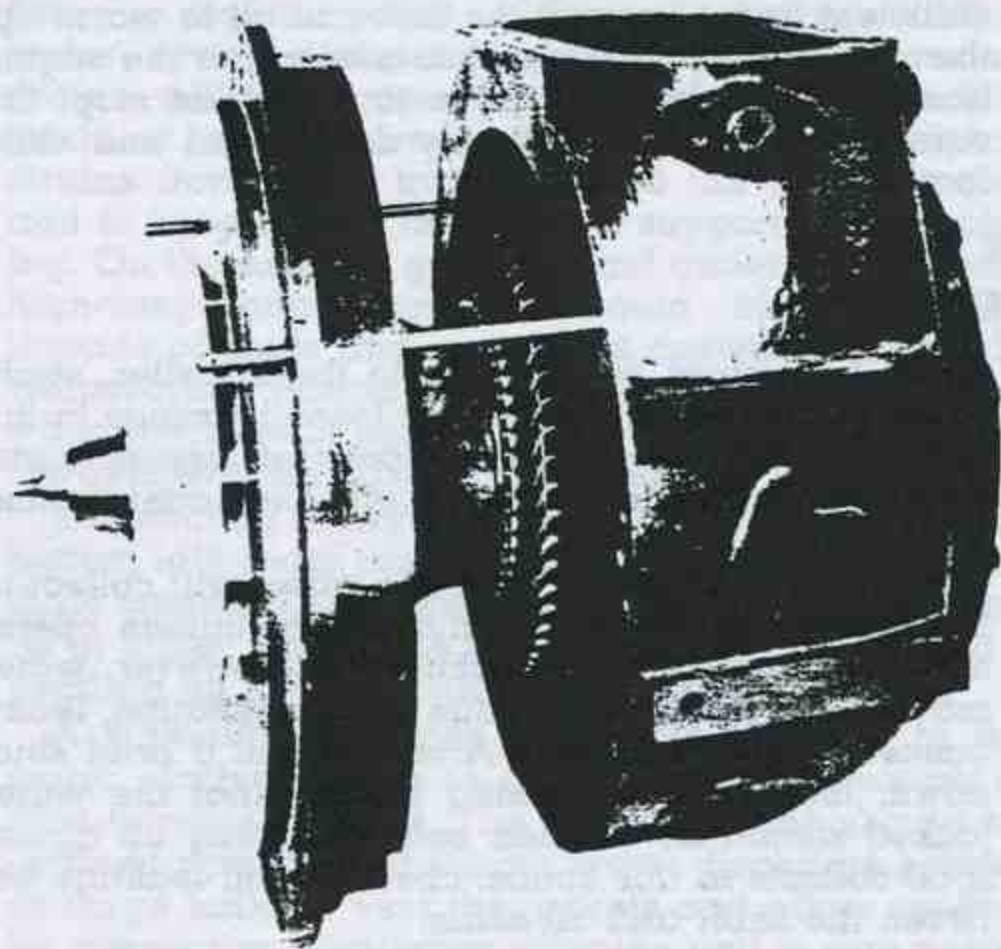
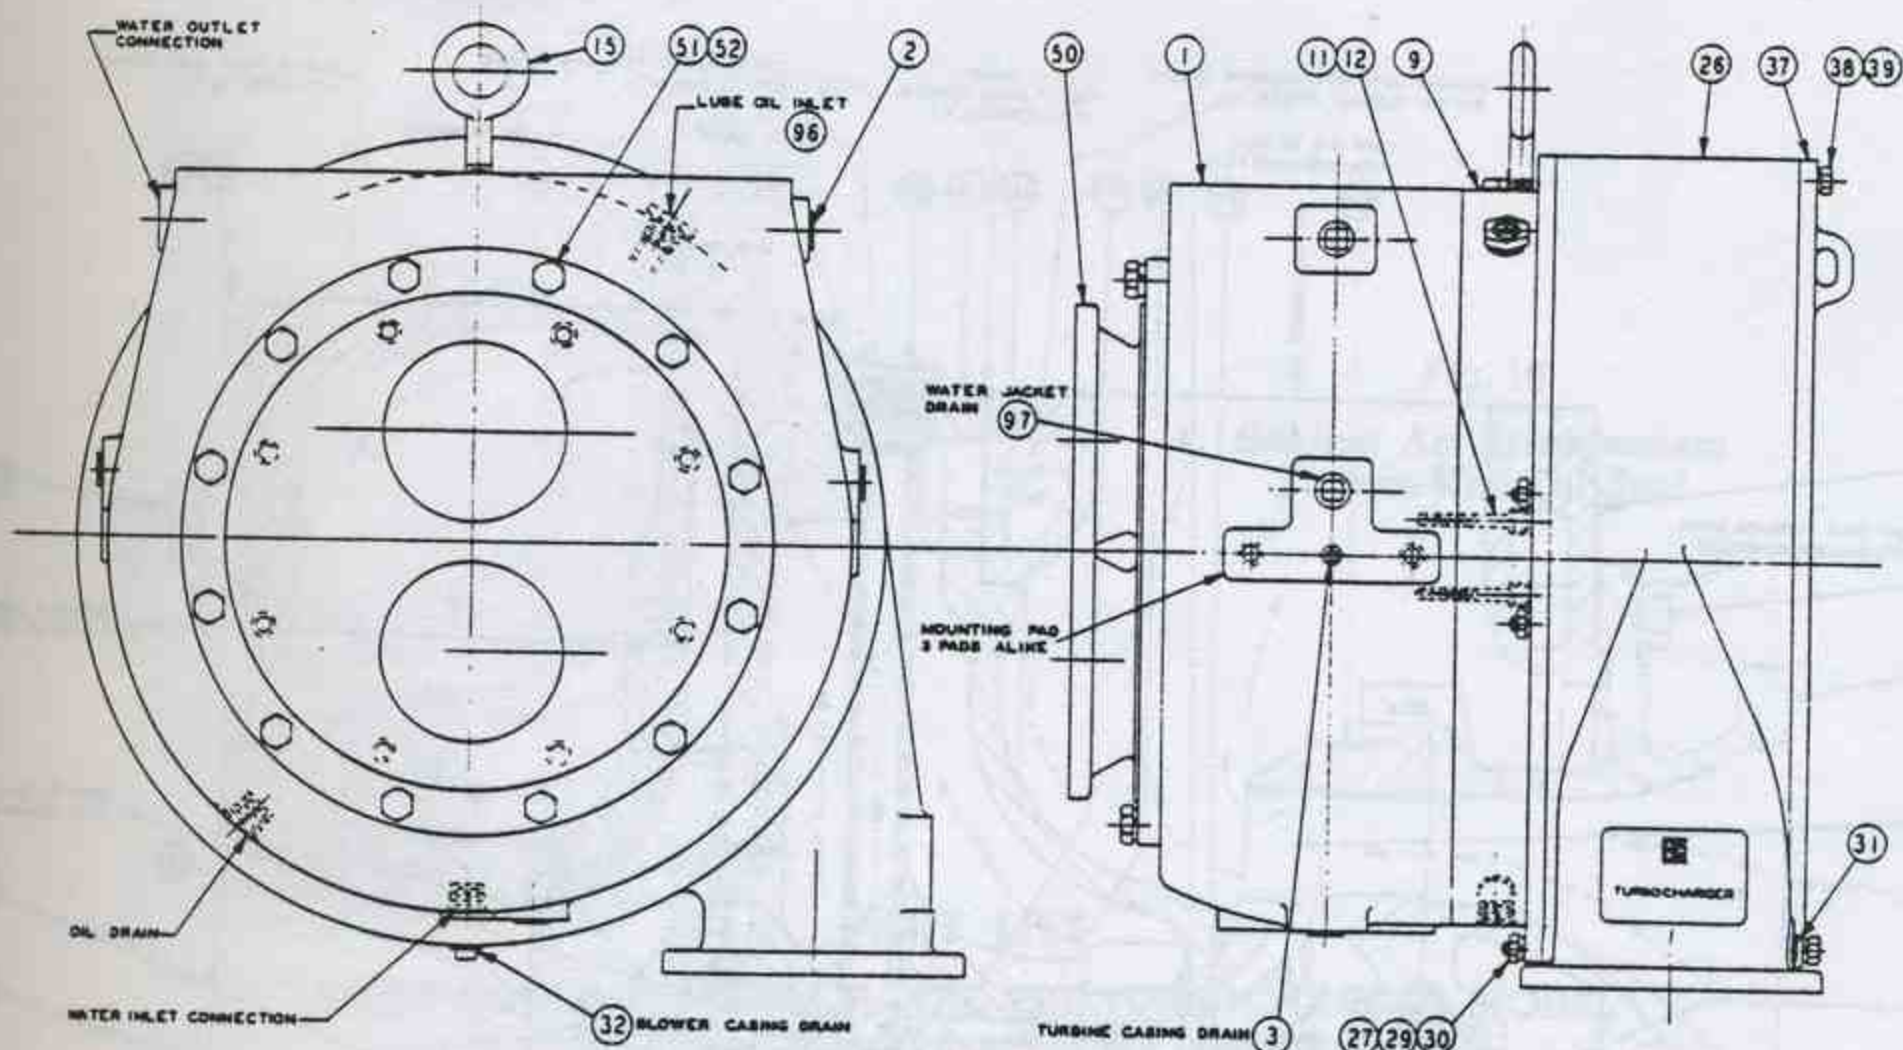
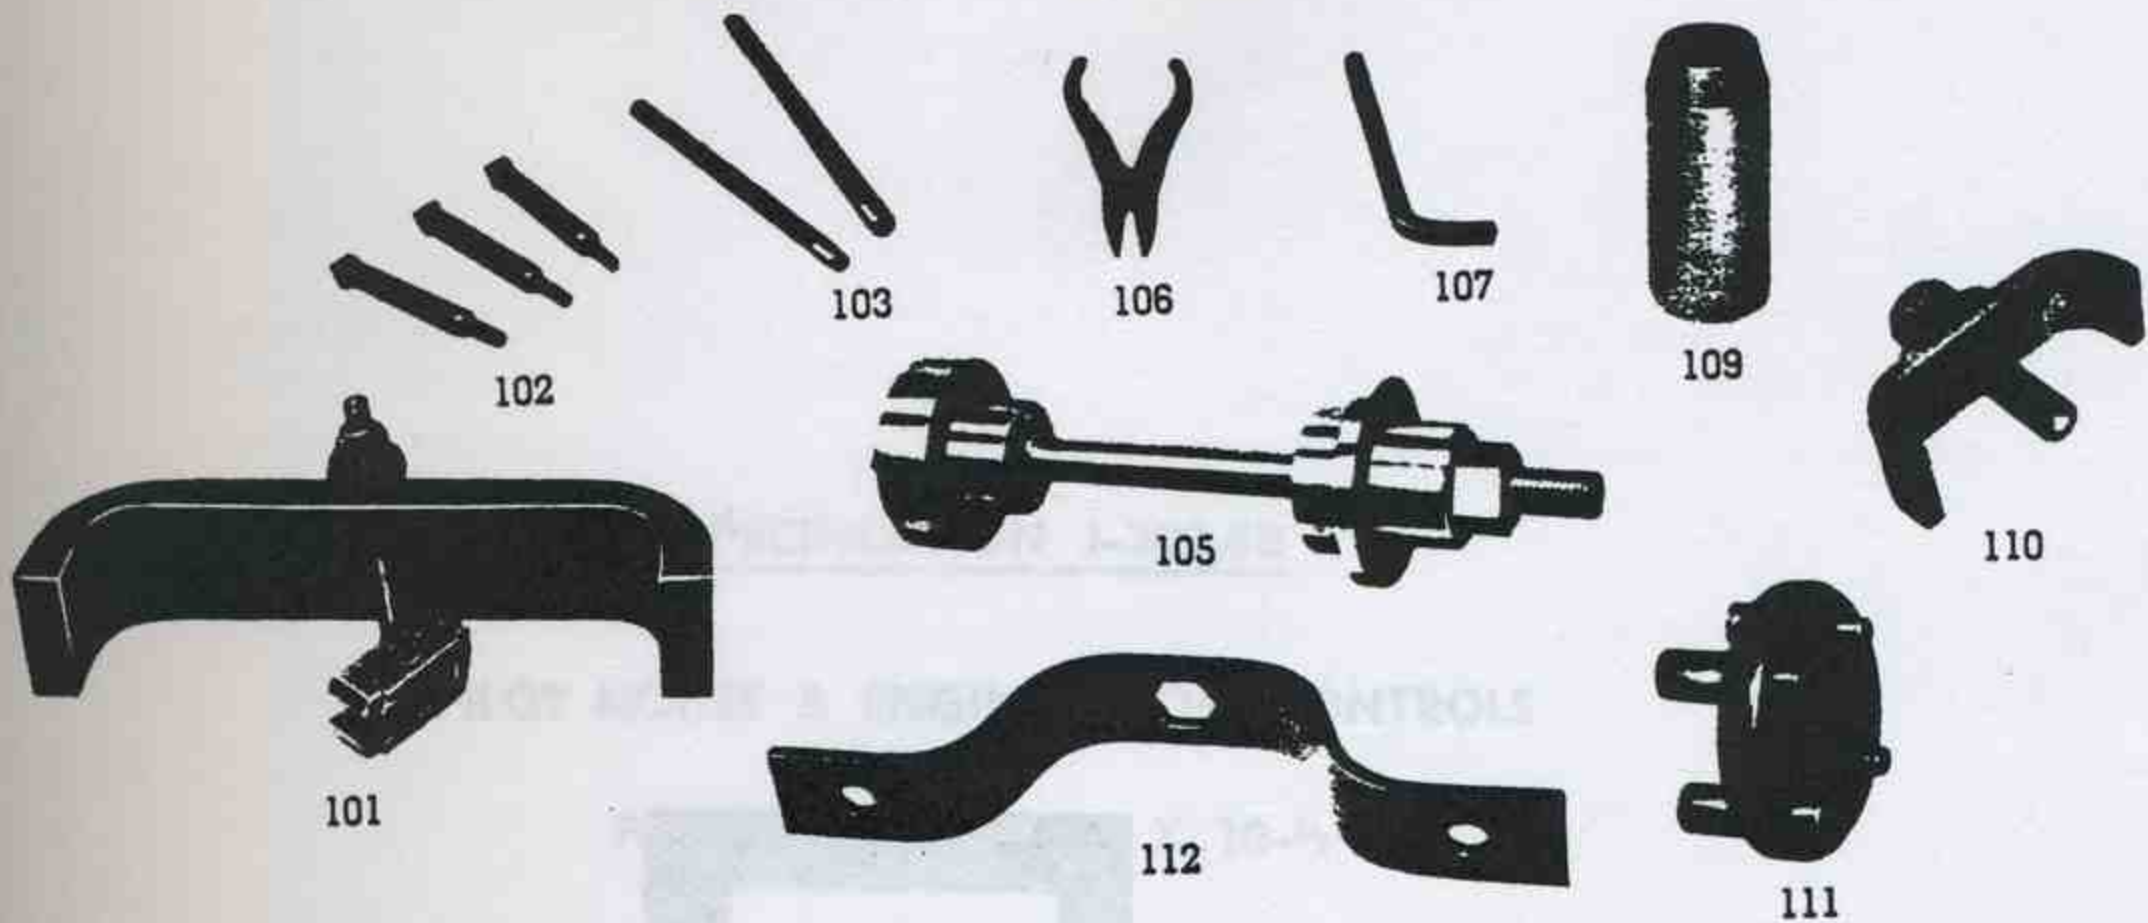

Fig. 4—Intermediate and Turbine Casing—Method of Assembly and Disassembly.
Fig. 7—Outline Drawing L 10 Turbocharger
Fig. 12—Tools.
3. Remove intermediate casing to turbine casing cap screws (11) install intermediate casing guide pins (103) and special jacking screws (102) (see Figs. 4 and 11) and break the joint. Remove special jacking screws.
4. Slide the intermediate casing and rotor assembly clear of the nozzle ring to avoid damaging the turbine blades (see Fig. 4).
5. The intermediate casing may now be supported with the eye bolt (15) for disassembly of the rotor.
6. It will not be necessary to "break" the joint between the turbine inlet casing (50) and turbine casing (1) or between the nozzle ring (59) and the turbine inlet casing, unless leakage is evident or if the nozzle ring is to be replaced. If the nozzle ring is to be replaced, remove locking wire (63) and bolts (62). Install nozzle ring wrench (111), (see Fig. 12) and rotate nozzle ring until bayonet lock is disengaged.
1. Before replacing the shaft, place the shaft sleeve (See Fig. 12) on the impeller end of the shaft. The shaft and bearings are to be assembled clean and with a light film of oil. With the shaft sleeve in place, insert the shaft into the bearings taking care not to mar the bearing surfaces. Then remove the shaft sleeve.
play should be checked with a dial indicator. End play should be within the limits specified in Section 6. After checking the end play, the bearings should be oiled through the lube oil inlet at the top of the intermediate casing (9) Figs. 7 and 8. Turn the rotor by hand to be sure that the oil gets to all surfaces of the shaft and bearings.
3. With the aid of eyebolt and overhead lift, slide the intermediate casing into place (See Fig. 4), being careful not to damage the turbine blades. Install cap screws (11) Fig. 7 and tighten evenly.